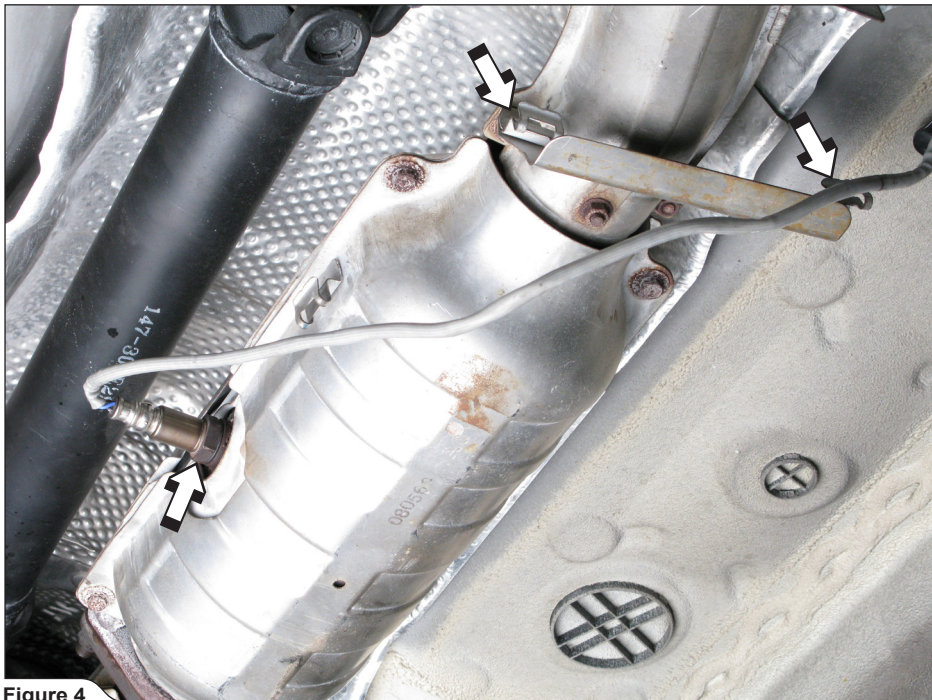

Figure 4
4. **For Evolution only:** undo the lambda sensors' electrical lead and unscrew the marked lambda sensor (Figure 4).